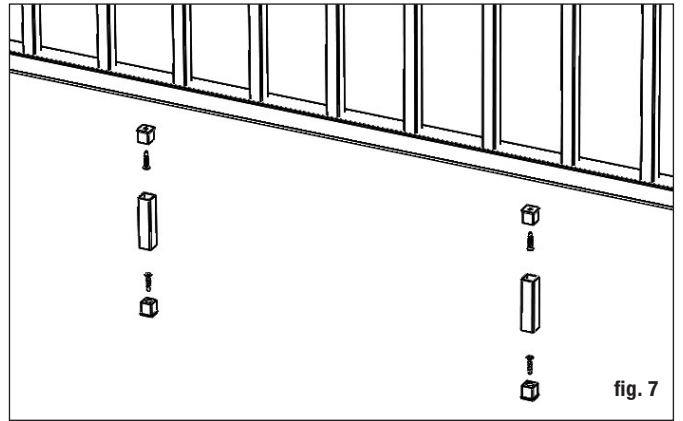

fig. 7
Step 6 A rail support is needed every 2 feet (**2 are included in the 6ft kit, 3 in the 8ft kit**). Attach rail support connectors to the bottom of the lower rail at 2-foot intervals. Pre-drill using a 1/8" drill bit. Attach the rail supports to the support block connectors. Mark the location of the rail support on the deck surface and attach the other rail support connector to the deck using the included screw (fig. 7). **For Anodized Brushed Titanium Railing drill two 1/4" drain holes through the bottom of the rail to prevent trapping water. Center drain holes between two baluster locations as baluster can block the pathway and stop water from properly draining.**